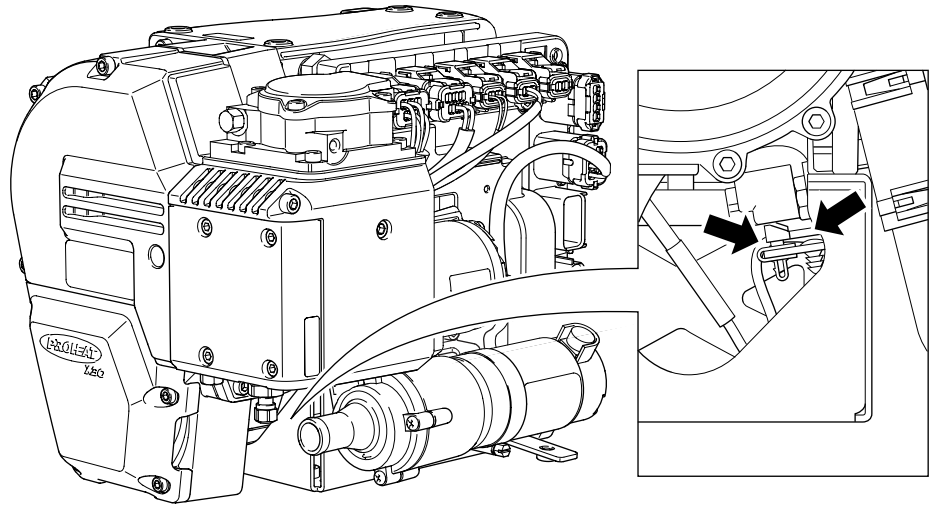

Figure 4-21. O₂ Sensor Harness Clip Removal.
- e) Remove O₂ sensor harness from cradle. See figure 4-21. TIP: use a long medium size flat tip screw driver and place between the cradle and the O₂ sensor connector to pry it out from its mount.